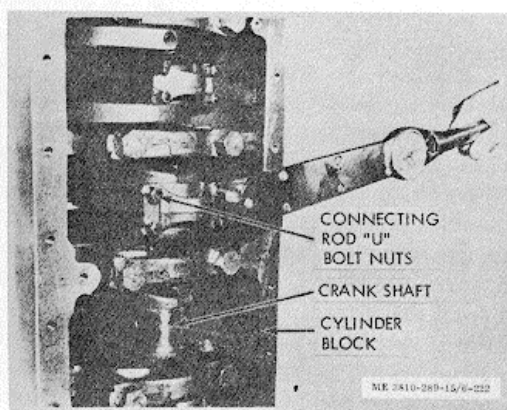

Figure 3-214. Torquing connecting rod U-bolt nuts. assembly in foregoing manner; then:
(19) Tighten front (of engine) U-bolt nuts, then rear U-bolt nuts to 15/20 ft. lbs figure 3-214.
(20) Bar crankshaft around after each piston and rod assembly is installed to see if assembly is binding. After each piston and rod assembly is installed, a little more effort will be required to turn crankshaft; however, if one assembly causes an unusual binding, it indicates an out-of-round liner (probably caused by a misplaced liner packing ring) or an incorrect or misplaced piston ring.
(21) Assemble and install each piston and rod